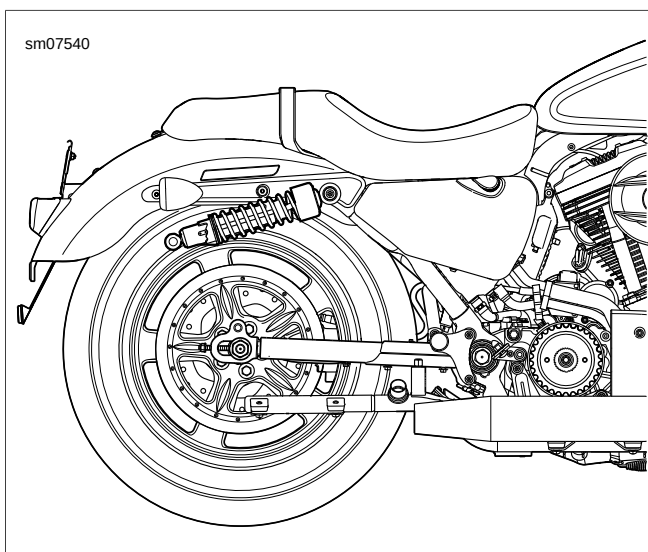

Figure 5-39. Drive Belt Removal: XL Models
11. See Figure 5-39. Remove belt.